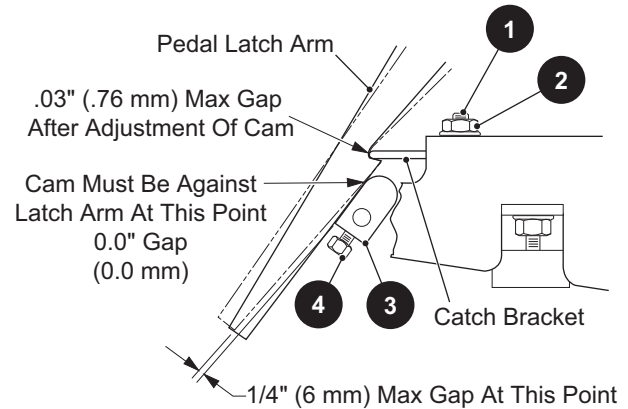

Figure 26 Catch Bracket and Latch Arm Parking Brake Pedal, Removal and Installation
Remove the two bolts (1) and nuts (2) which secure the catch bracket. Replace the catch bracket with a new one, replace and tighten the hardware to 85 - 95 in. lbs. (10 - 11 Nm) torque (Figure 26).